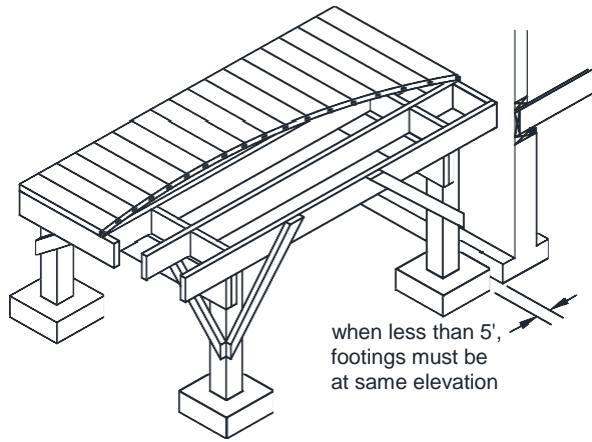

FIGURE 14: FOOTINGS ADJACENT EXISTING HOUSE
- When the edge of a deck footing is closer than 5 feet to an existing exterior house wall, the footing must bear at the same elevation as the existing house footings as shown in FIGURE 14.